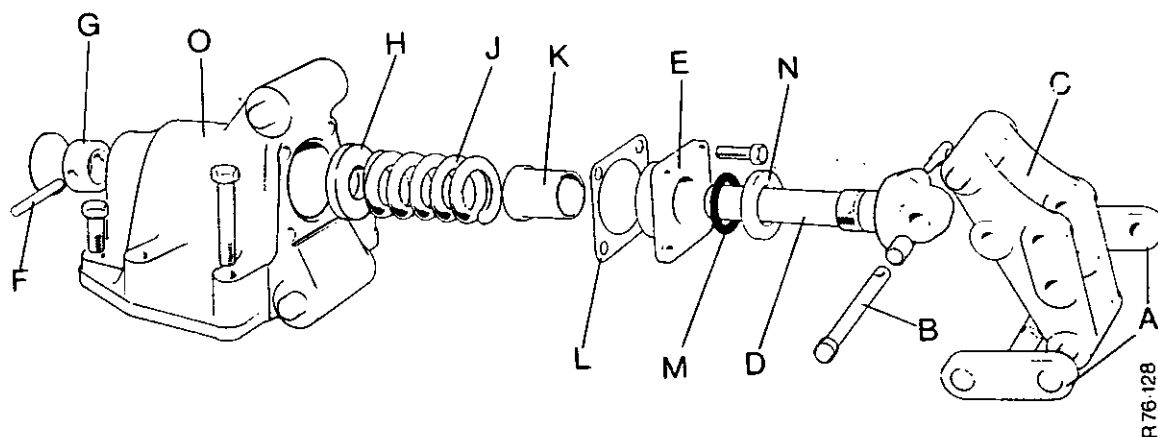

FIGURE 120. DISASSEMBLY OF THE ADJUSTABLE SENSING UNIT
3. Remove the screws which hold the end cover 'E' on to the housing. Put a bar through the hole in the end of the shaft then pull the shaft assembly clear of the housing. (See Figure 120.)